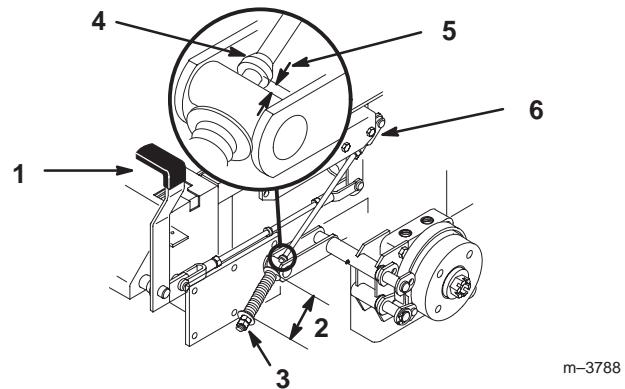

Figure 62
2. Measure the length of the spring. Measurement should be 2-3/4 inch (70 mm) between washers (Fig. 62).
3. If adjustment is necessary, loosen the jam nut below the spring and tighten the nut directly below the yoke (Fig. 62). Turn the nut until the correct measurement is obtained. Tighten the two nuts together and repeat on opposite side of unit.
- A. Measure the distance between the trunnion roller and the collar on brake rod. The measurement should be 3/16-1/4 inch (5-7 mm) (Fig. 62).
- If adjustment is necessary, loosen the jam nut directly below the yoke. Turn the bottom rod until the correct measurement is obtained (Fig. 62). Tighten jam nut at yoke